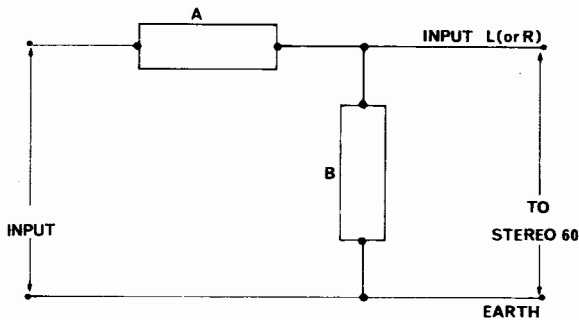

Fig. 3.8.1.
The input components are arranged normally in a potential divider, shown in fig. 3.8.1., usually consisting of two resistors but occasionally capacitors will be used. Network B can normally be mounted on the Stereo 60 in the holes provided near the inputs, network A will be included in series with the live signal lead. The components can be clearly seen in our layout, fig. 2.3.
a) Via a 1M or 2M2 resistor (A in fig. 3.8.1) to a flat input, when resistor B is chosen to suit the cartridge's output as follows:-
b) Loading with a capacitor. In this case the cartridge is fed direct to a flat input and the capacitor fitted in place of network B (fig. 3.8.1).